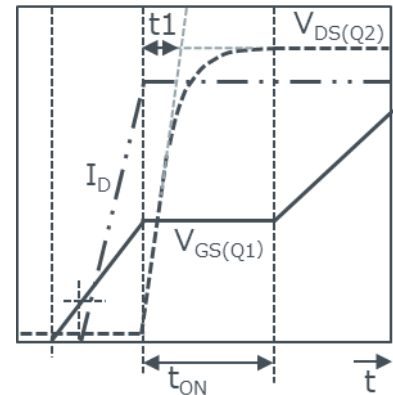

Figure 16. Q2 V_{DS} actual waveform when Q1 is on
- t_1 is the time to the point where the tangent line of the steepest point of V_{DS} and the supply voltage intersect in actual operation. Set t_1 to 1/2 of t_{ON} . (See Fig.16)